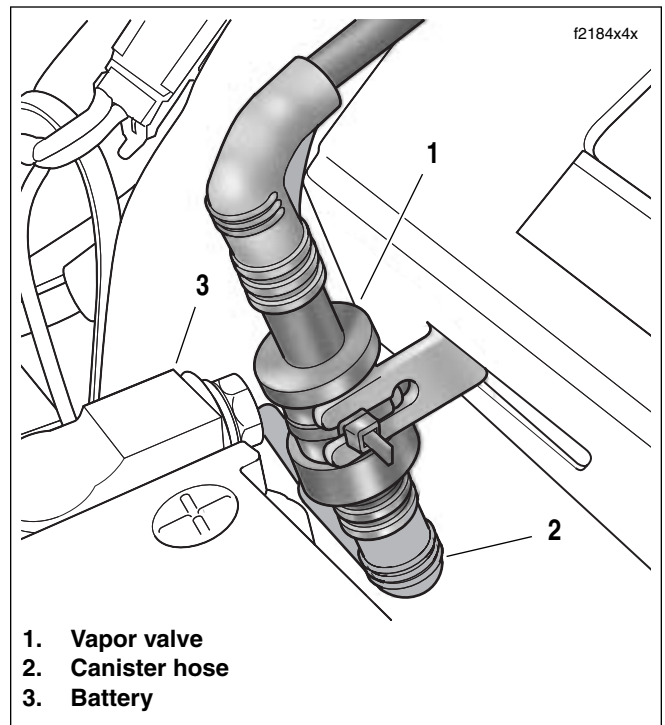

Figure 4. Vapor Valve and Hose: Touring Models
- **Touring models:** See Figure 4. The vapor valve (1) is located in front of the battery (3) on the left side of the frame assembly. Follow service manual procedures to remove the seat and battery. Then remove the canister hose (2) from the valve.